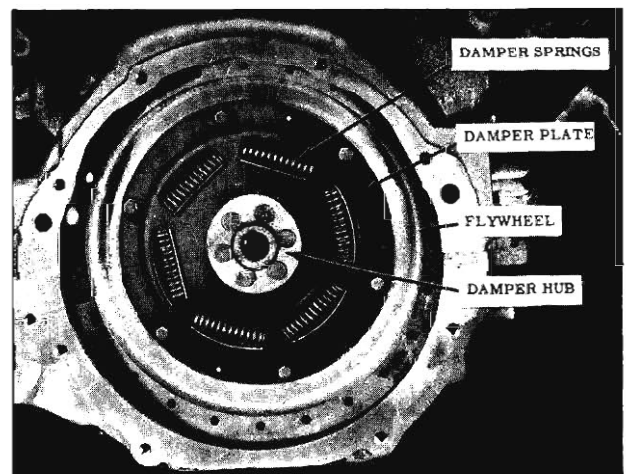

Fig. 3-49 Damper Assembly
2. Remove the six damper plate to flywheel attaching cap screws and remove damper. (Fig. 3-49)